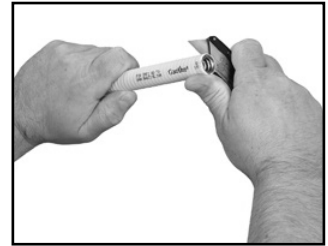

Fig. 4-3
STEP 2 STRIP JACKET (FIG. 4-3, FIG. 4-4)